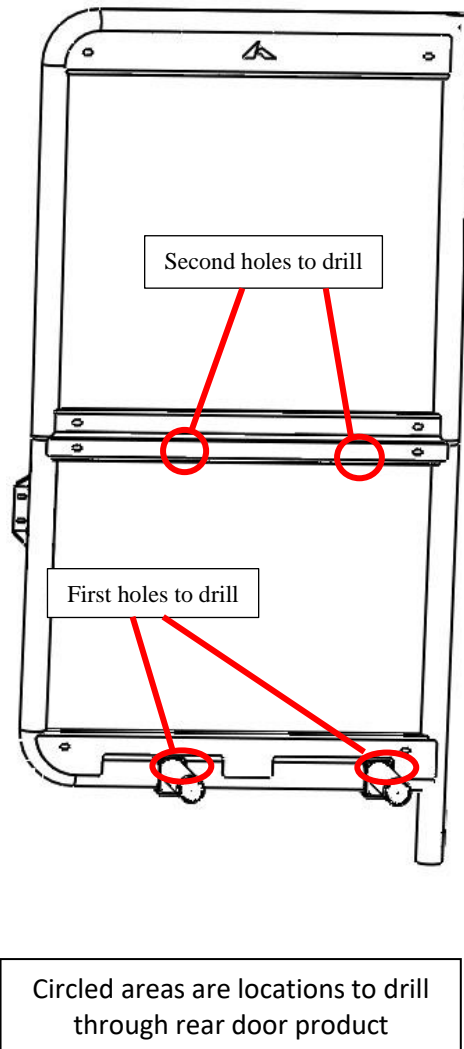
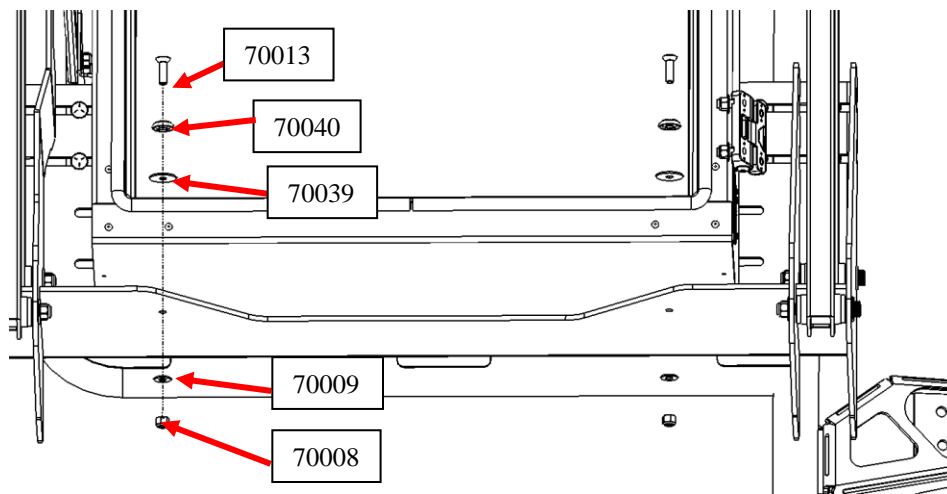

Figure 2: Drill and Bolt Locations for Rear Door Products
Figure 5: Lower Tray Drill and bolt locations for mounting box
- a. First - Two of the holes should be drilled through the bottom of the box and through the support stands (see Figure 2 for location).
- b. Second - The other two holes should be drilled through the back of the box and rear door product sheet metal support. (also seen in Figure 2).
9. For mounting the box to a Power Lift Bike Rack, first have someone hold the box in place while another person drills the mounting holes where hardware is inserted, as shown in Figures 5 and 6. Drill the two holes in the base unit, through the box, in the same spots as shown in Figure 2.
10. Using four ¼-20 x 1" Countersunk Bolts (70013), four ¼-20 Countersunk Washers (70040), four ¼-20 Fender Washers (70039), four ¼-20 Washers (70009), and four ¼-20 Nylock Nuts (70008), secure the box to the Power Lift Bike Rack through the mounting holes as shown in Figures 5 and 6.